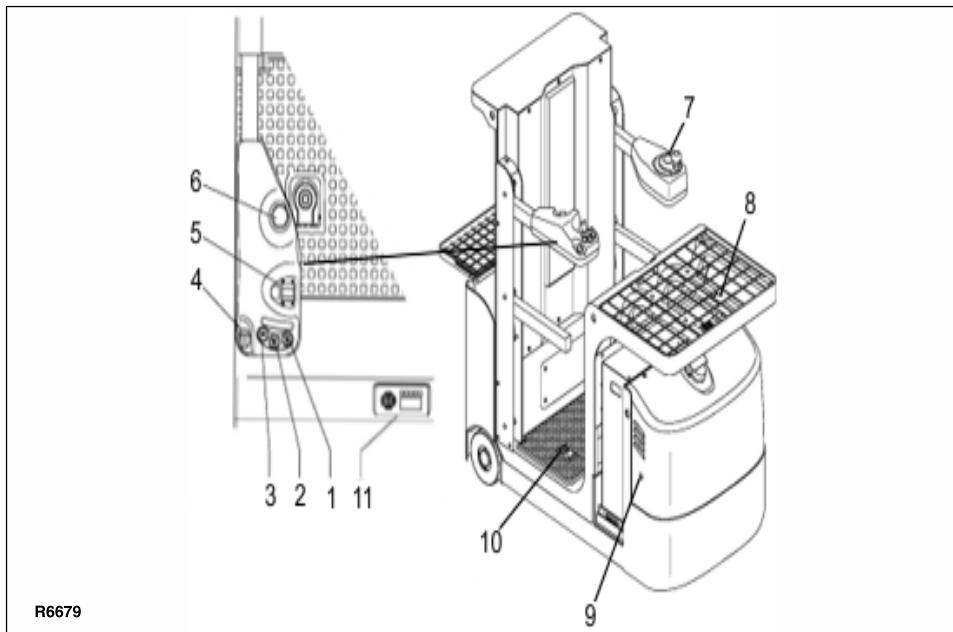
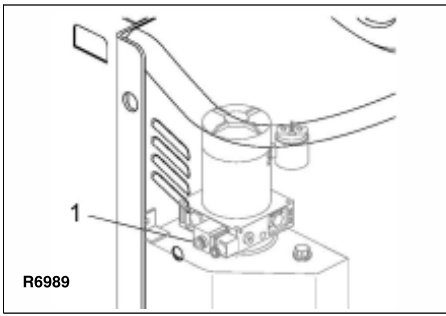

Figure 7 Operation
Figure 8 Lowering Control
3. Turn on the keyswitch (4, Figure 7) and pull up on the emergency power disconnect switch (6, Figure 7).
4. Step on “deadman” footswitch (10, Figure 7) to activate the electrical controls.
7. Use the steering control (7, Figure 7) to steer the vehicle in the required direction. Drive wheel direction is indicated on the instrument panel.
8. Using your right hand, move the travel switch (5, Figure 7) to the desired direction.
Coasting Brake: release the drive pedal (10, Figure 7) and allow the vehicle to coast to a stop.
Reverse Braking: To stop faster, slowly move the travel switch (5, Figure 7) to the opposite direction.
Emergency Braking: To stop rapidly when an emergency exists, press the emergency brake switch (6, Figure 7).
Lifting: Press and hold the lift button (1, Figure 7) until you reach the desired height.
Lowering: Press and hold the lower button (2, Figure 7) until you reach the desired height.
If a condition exists where lowering without power is necessary, instruct someone on the ground to push sole-noid valve button (1, Figure 8) through hole (9, Figure 7).